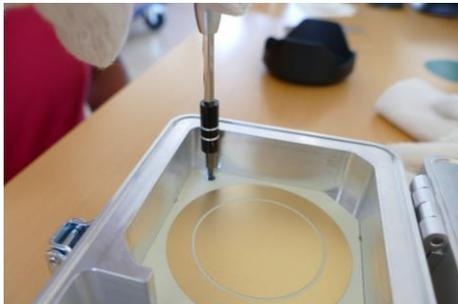

Figure 4-1: Unscrew and remove the MEAS electrode
- a) Disconnect the cables from the MCX connectors of the top electrode (IN) and bottom electrode with guard ring (MEAS)
- b) Remove the top electrode (IN)
- c) Unscrew and remove the bottom electrode (MEAS) as shown in Figure 4-1